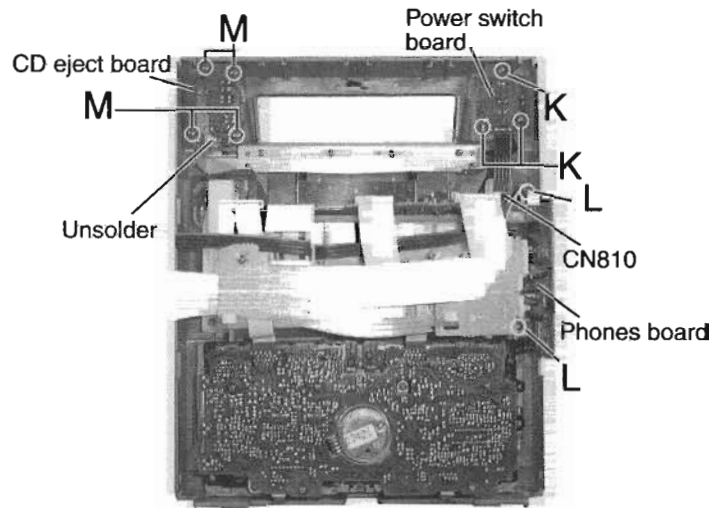

Fig.15
■ Removing Each Board of the Front Panel Assembly (See Fig.15 and 16)